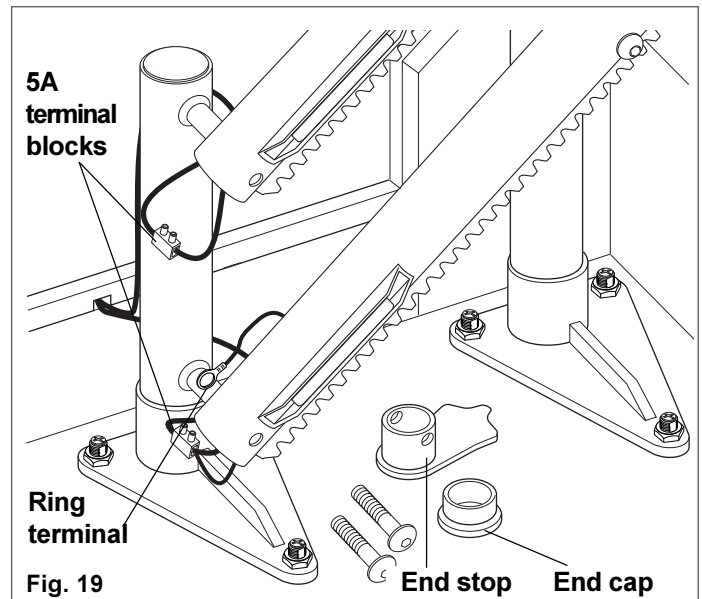

Fig. 19
- 2 Feed the charge contact loom wiring through the holes in the rear of the rails, as shown in Fig. 19.
- 4 Ensure the ring connector is fitted between the rear of the bottom rail and the horizontal leg of the stanchion (Fig. 19). (Shown loose in the illustration for clarity).